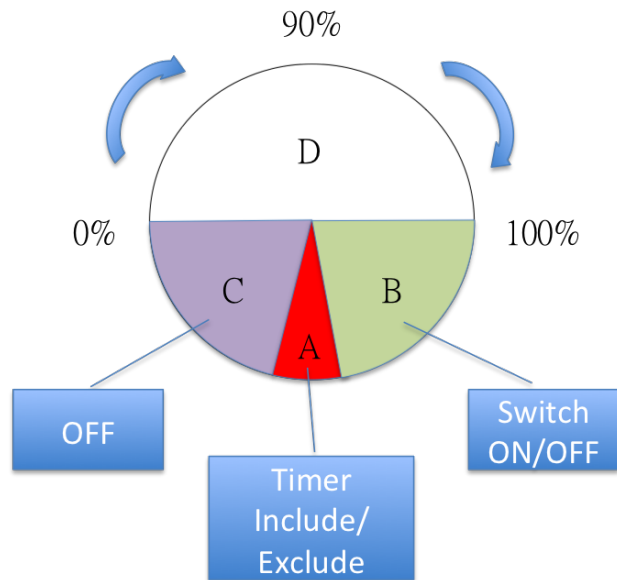
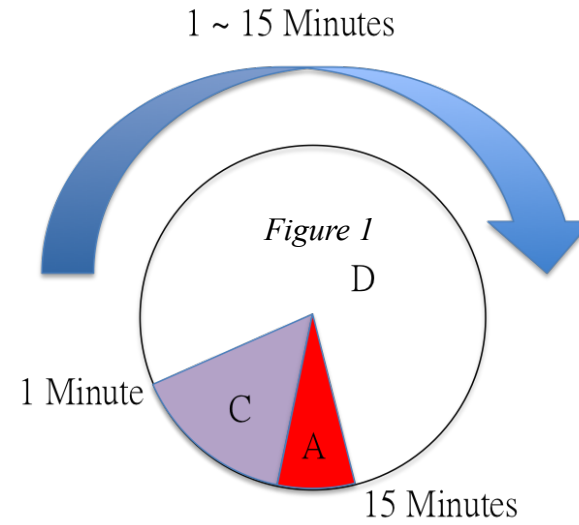

Figure 1
Figure 2
In the first time, add the device into the Z-Wave™ network. Make sure the primary controller is in the add mode. And then power on the device through micro USB. The device will auto start the NWI (Network Wide Inclusion). Red LED will flash every second and continue 30 seconds. And it should be included in 5 seconds. Red LED will light ON one second. Rotating to area A (shown in Fig. 1) and touch 3 times can abort NWI mode.
1. Include: Pointing the arrowhead to area A first (shown in Fig. 1). Pressing the button three times within 1.5 seconds. The red LED will light up for 1 second if succeed.
This device can control dimmers in group 2 using three ways: Dimmer, Timer, and On/Off Switch. Point the arrowhead to area A (shown in Fig. 1 and Fig. 2) then hold the button, release after the red LED go out. One beep means entering Timer mode or two beeps means entering Dimmer mode. The device can switch to On/Off Switch mode automatically when fitting horizontal.
This device is able to set dimmer level by rotating to different angle. When the status is Off, surround LED will not work except in area A (shown in Fig. 1). Rotate the device to area B, C, D (shown in Fig. 1) then touch the button can set the status to On. After a short beep, the surround LED will change gradually from blue to red in area D. It will send Basic set command automatically 1 second after rotating stop. To turn Off the device in group 2, you can rotate PSR04 to area C or touch the button again.